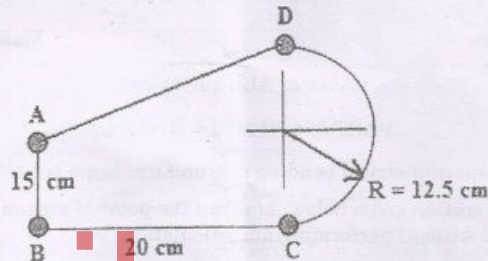

Figure 1
- (b) The webs of the section given in Figure 1 are ineffective in bending. Boom areas are given as $A = 3 \text{ cm}^2$, $B = C = 2.5 \text{ cm}^2$, and $D = 2 \text{ cm}^2$. The given section is subject to bending moments $M_x = 10 \text{ kNm}$ and $M_y = 4 \text{ kNm}$. Determine the bending stress in booms A, B and C in MPa. (13)
13. (a) The section given in Figure 1 is now subject to 940 N vertical shear. Obtain the shear flow in the webs. Explain how the shear center location of the given section can be determined. (13)